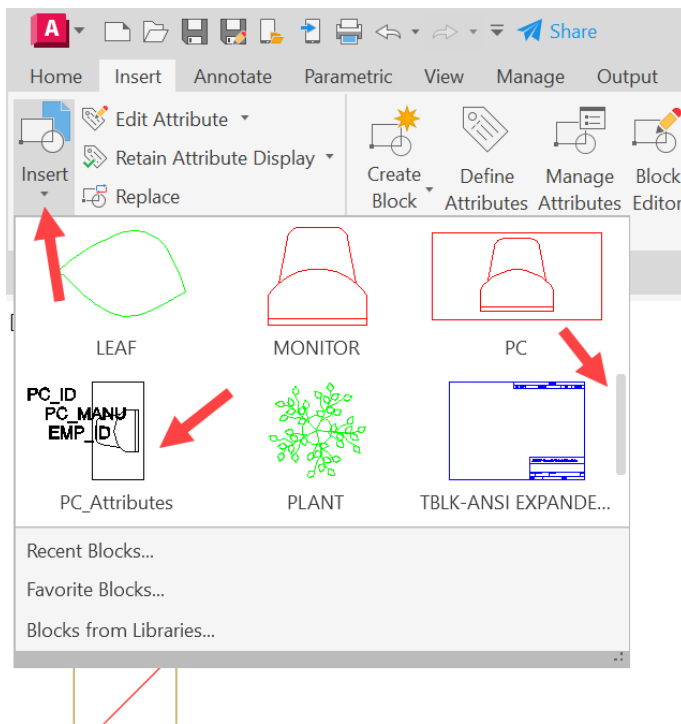

Figure 10.13: The Insert drop-down menu with the new attributed block pointed out using an arrow
19. On the **Insert** tab on the ribbon, click on the **Insert** dropdown on the **Block** panel. Using the slider bar on the right of the drop-down menu, you can locate your new attributed block, **PC\_Attributes**, as shown in *Figure 10.13*. Click on the block on the menu and you can then insert the block into the drawing.